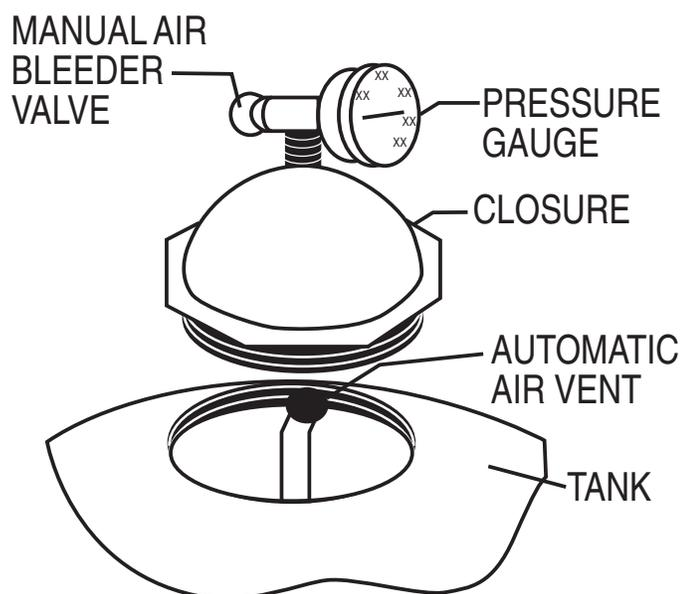

Figure 1.
- Pivot the diffuser out of the center of the tank on the TR100 and TR140 by rotating the diffuser assembly counter clockwise. After installing the filter media as described below, check to make sure the tops on the diffusers are parallel to the top of the sand bed.) Fill the tank about half full of water. Pour pea gravel first (if used) and then the sand into the top of the filter at a slow rate so that the impact of the filter media does not damage the laterals. See Table 2 for the proper amounts of sand and gravel. Fill filter to the proper level to maintain freeboard, as shown in Table 2. Pivot the diffuser assembly back to its vertical position if it was moved. Be certain the automatic air vent is protruding into the top of the closure as indicated below in Figure 1. Ensure that the automatic air vent is in the center of the filter closure. Wash away all sand around the threaded opening at the top of the tank.